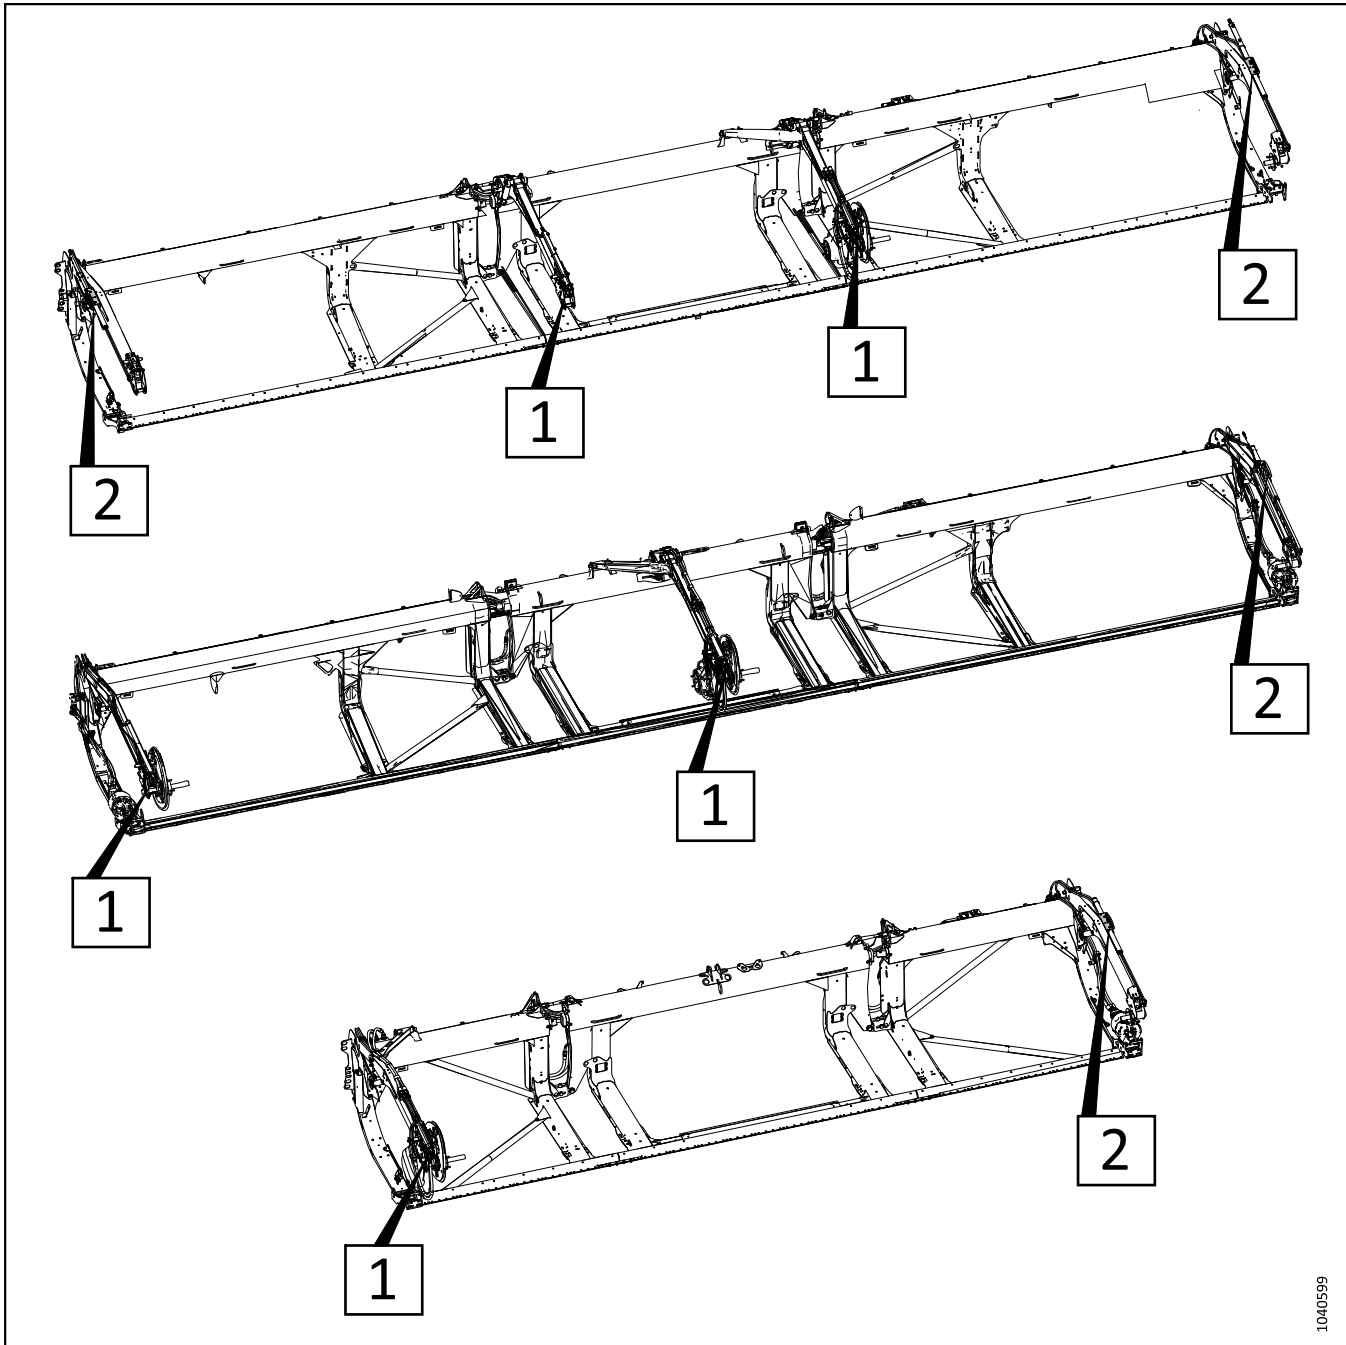

Figure 3.193: Adjustable Fore-Aft Cylinders – Procedure Reference Numbers
5. Refer to Figure 3.193, page 168 to determine the fore-aft cylinder adjustment procedures for your header type. The number on the illustration refers to one of the following procedures: